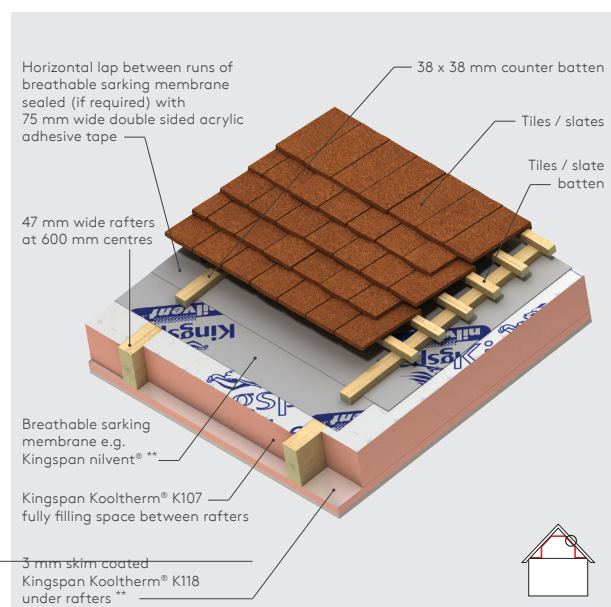

Figure 1a
NB When calculating U-values to BS EN ISO 6946: 2017, the type of mechanical fixing used may change the thickness of insulation required. The effect of fixings for Kingspan Kooltherm® K118 Insulated Plasterboard in the U-value calculations for Figures 1a, 1b, 1c, 1d, 2a, 2b, 4a & 4c is insignificant as the insulation layer penetrated is not the main insulation layer. The U-value calculations for Figures 3a & 3b assume that over rafter layers of insulation are fixed using stainless steel fixings with a cross sectional area 7.9 mm², with 3.7 fasteners per m² (insulant thickness 0-40 mm), 6.2 per m² (insulant thickness 41-60 mm), 8.3 per m² (insulant thickness 61-80 mm) and 10.0 per m² (insulant thickness 81-100 mm). The U-value calculations for Figures 3a & 3b also assume that over rafter layers of insulation are fixed using stainless steel fixings with a cross sectional area 9.1 mm², with 11.1 fasteners per m² (insulant thickness 101-125 mm). Please contact the Kingspan Insulation Technical Service Department (see rear cover for details) for project calculations.
- 1 In Figures 1a & 3a the breathable sarking membrane can be placed over the counter-battens, draped to provide for drainage and overlain with tile / slate battens. This will yield a marginally better U-value but it will be more difficult to seal the breathable sarking membrane effectively.